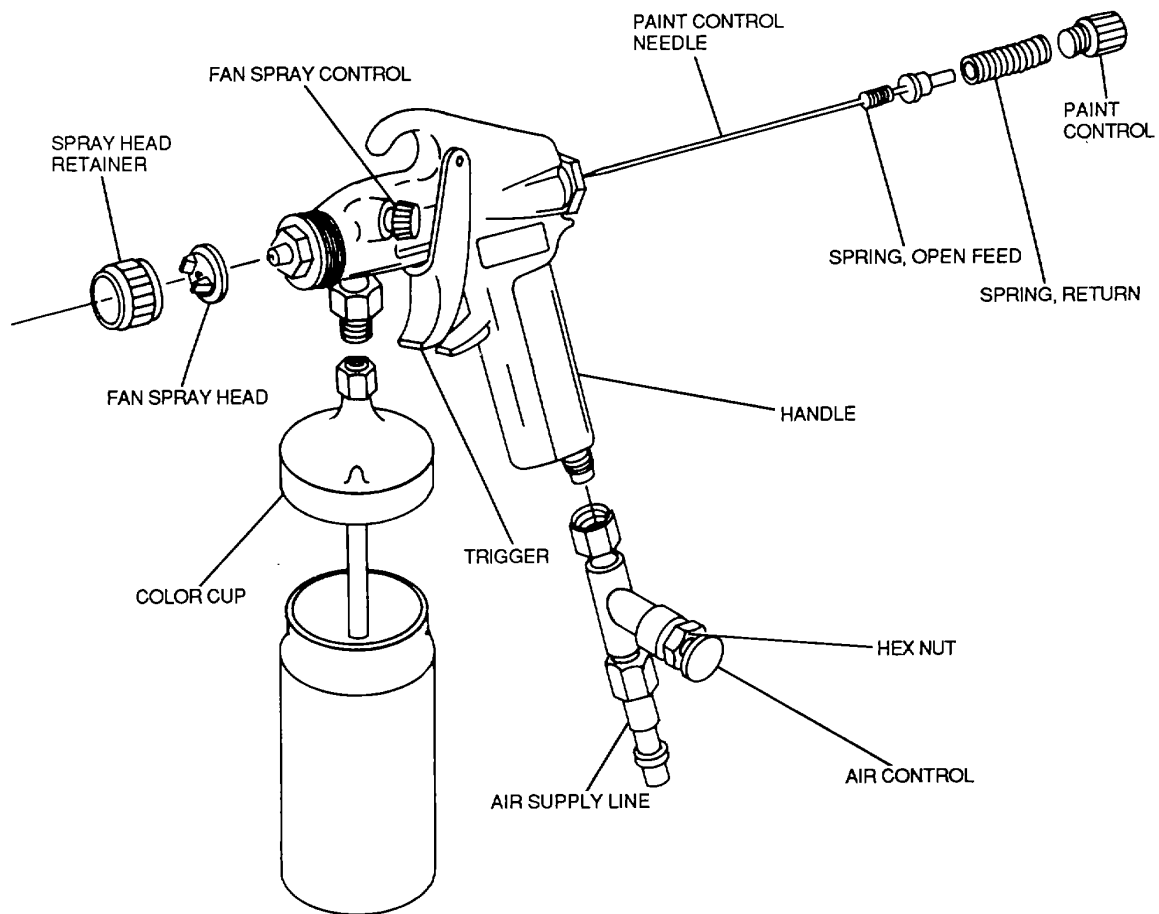

Figure 5-1. Typical Paint Gun
a. *Description.* Figure 5-1 shows the basic parts of a typical paint gun. Though the specific locations of some parts may differ from type to type, the guns are generally the same and the parts serve the same purpose.